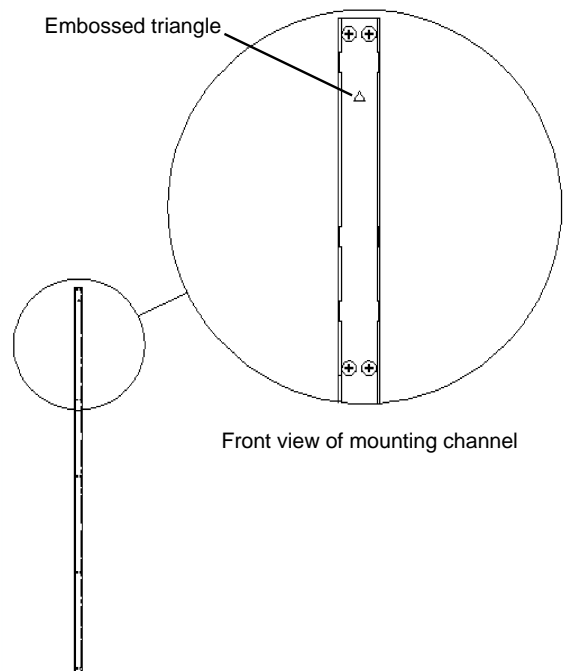

Figure 1b
2. Install the Mounting Channels with the end having the embossed triangle at the top. Align the holes in the Mounting Channel with the pre-punched holes in the Slotted Standards. Fasten the Mounting Channel in place with a screw in each hole. See **Figure 1b**.